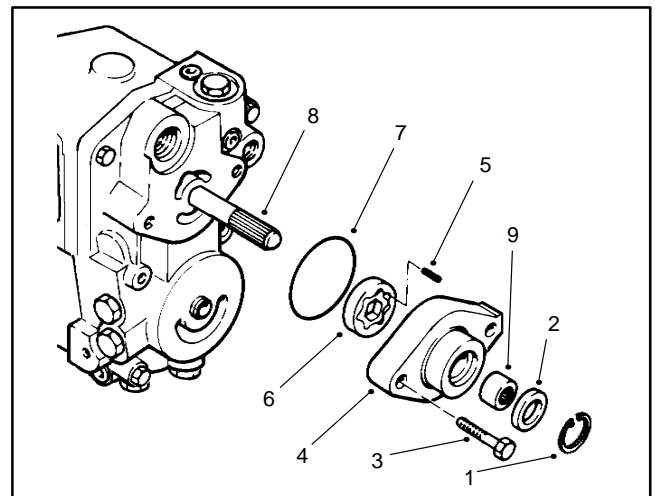

Figure 83
3. Remove the two (2) cap screws retaining the charge pump cover. Remove the charge pump (Fig. 83).